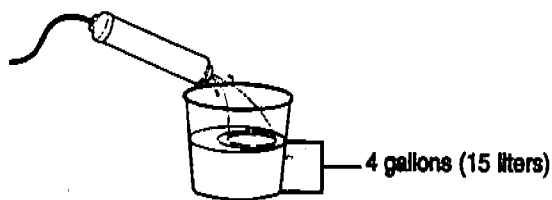

Figure 3-6 Flushing the Water Filter
7. The activated charcoal inside the water filter will settle during shipment. To obtain satisfactory analytical results, flush the filter before use. Referring to Figure 3-6, follow these steps: